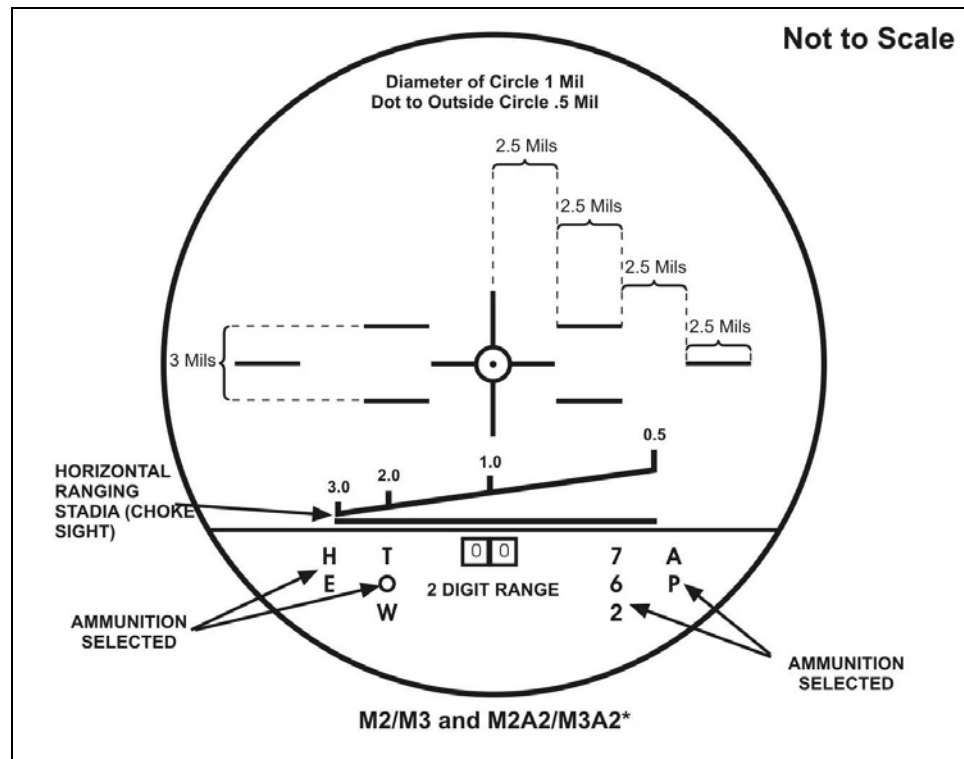
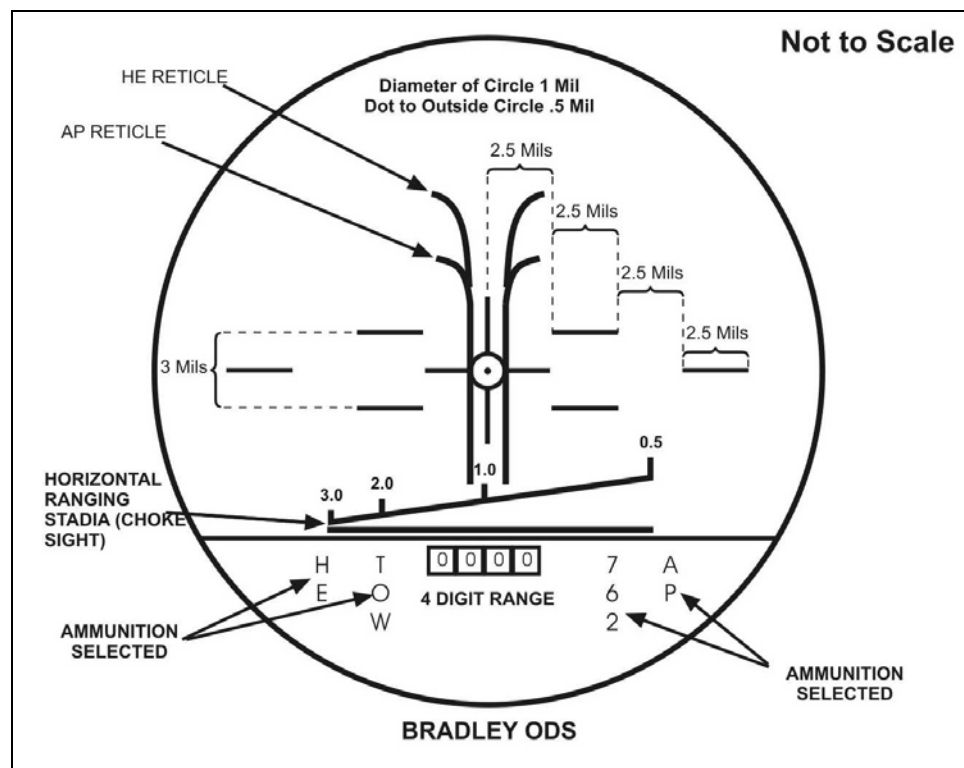
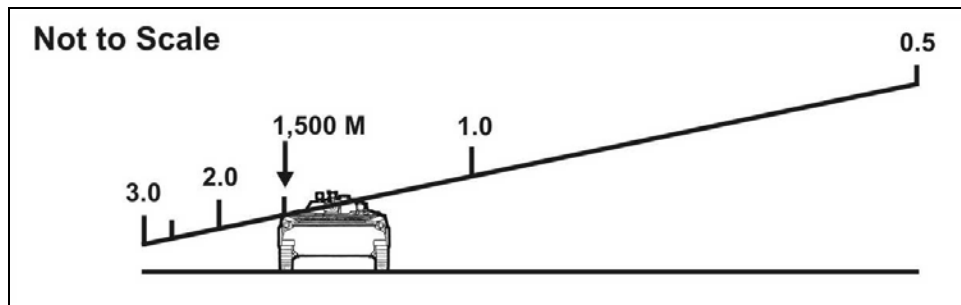

Figure 6-11A. 25-mm choke sight reticle, reticle lead lines.
Figure 6-11B. 25-mm choke sight reticle, horizontal-ranging stadia.
Figure 6-12. Choked hull.
(1) **Choke Sight.** He only uses the ISU reticle lead lines (Figure 6-11A, page 6-17) and horizontal ranging stadia (Figure 6-11B, page 6-17) to determine range from a defensive position. The ISU reticle has a choke sight he can use to estimate the range to BMP-type target, that is, any target that measures 1.8-meters high. (Reticles do not show the ADR for the M2A2 or M3A2.) Many different kinds of vehicles around the world derive from the BMP. The gunner can use the ISU or IBAS ranging stadia to determine the correct range to any of these (Figure 6-12, page 6-18).